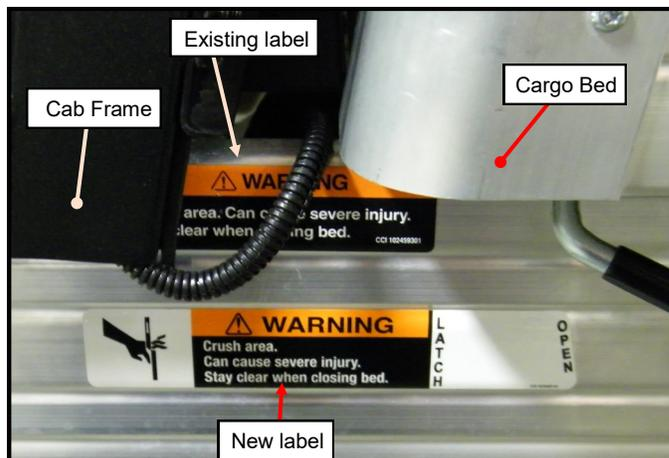

Figure 7.1: Tilt Bed Warning Label
- 7.1 Apply the Tilt Bed Warning Label on the driver's side of the Carryall, near the front of the Cargo Bed and below the cab frame as shown (Figure 7.1).